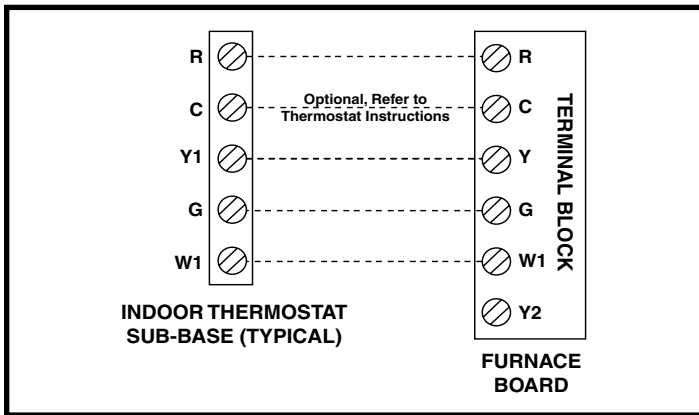

Figure 6. Typical Thermostat Connection (Field Supplied) for 1-Stage Cool / 1-Stage Heat
- This unit is designed to operate from a 24 VAC Class II control circuit. A single stage cooling / single stage heating thermostat should be used with this unit. A 2-stage cooling / 2-stage heating thermostat is recommended for economizer operation. See Figure 6 \(page 12\) for typical thermostat connection.